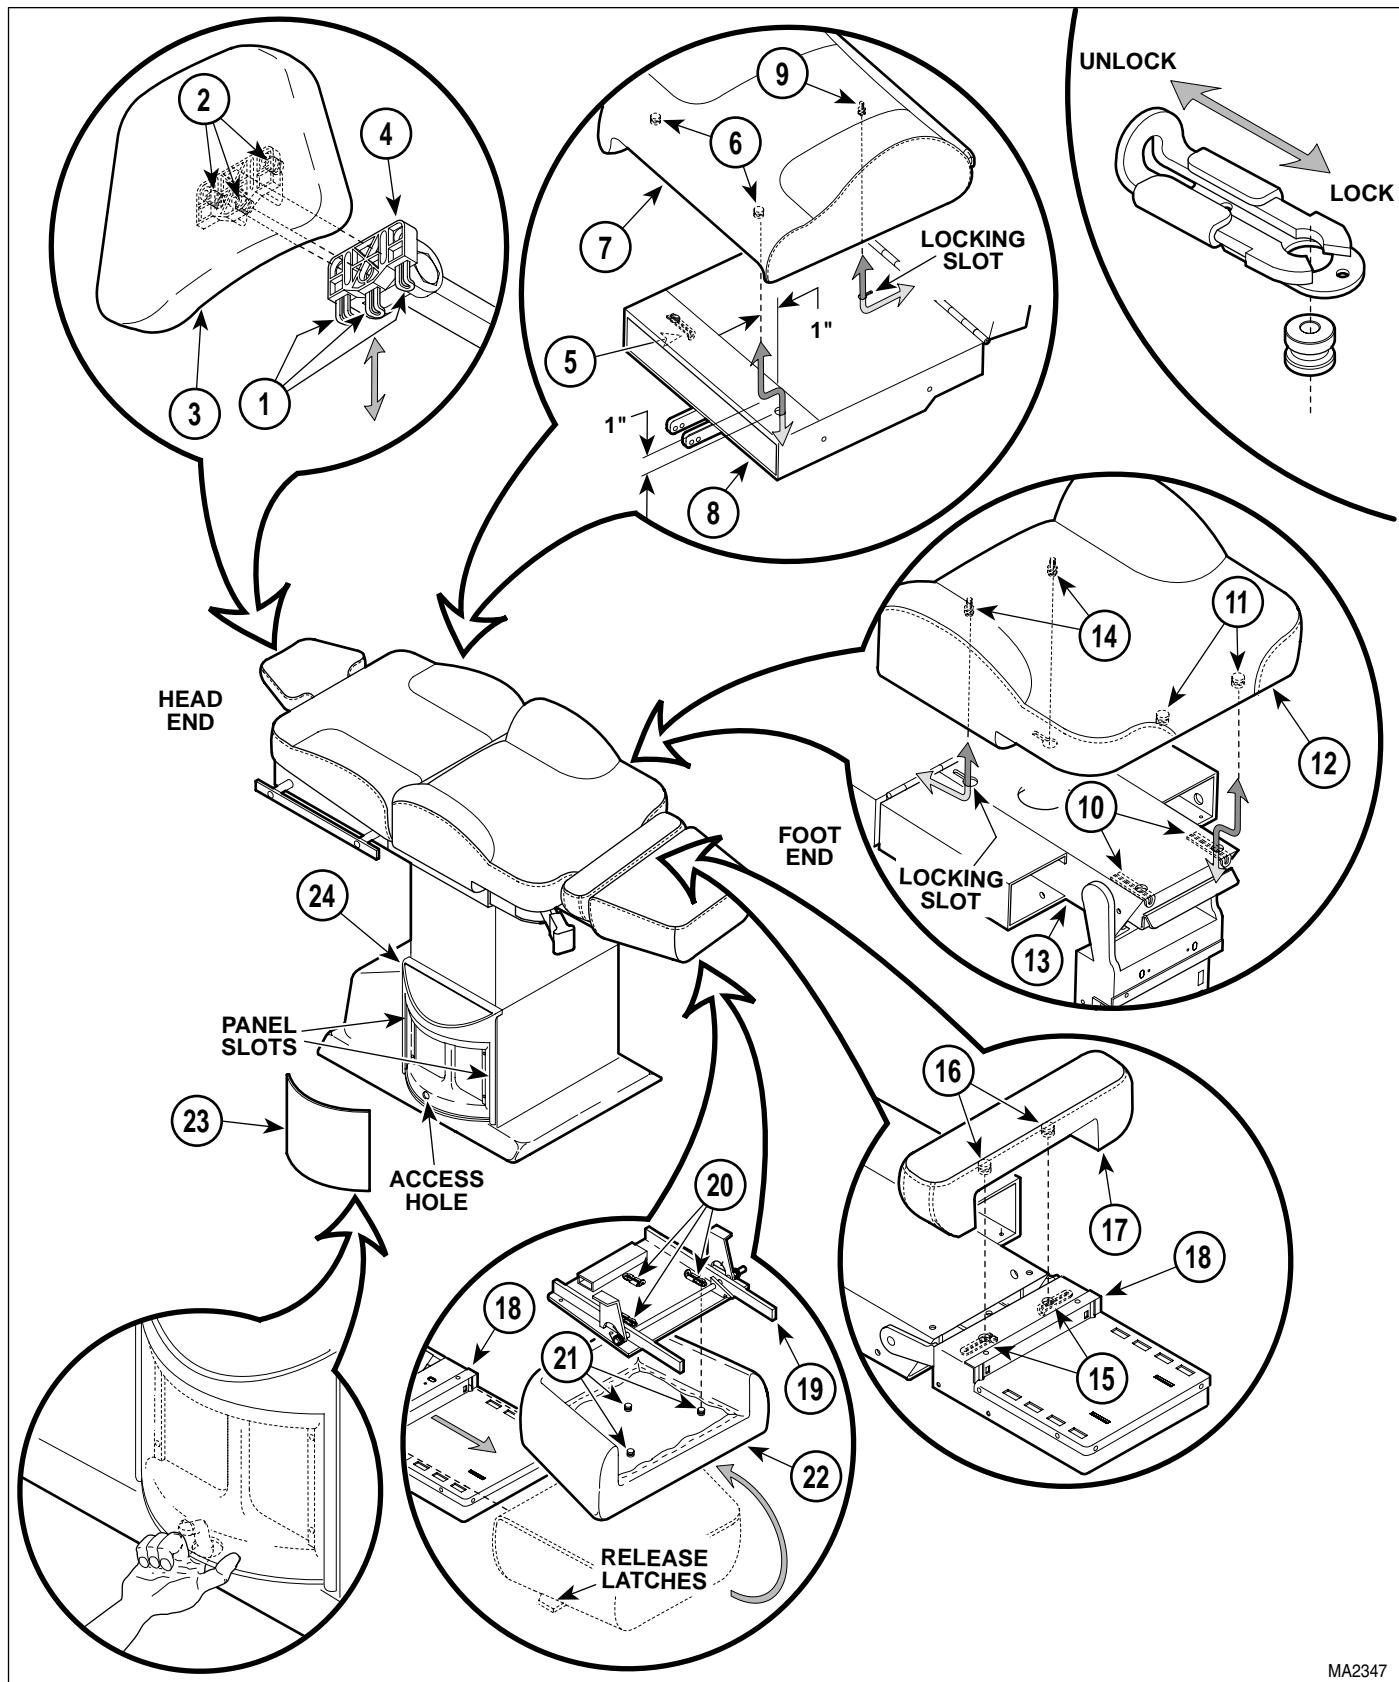

Figure 4-42.1 Upholstery Removal / Installation
- (2) Unlock three locking tabs (1, Figure 4-42.1) by pulling on locking tabs until locking tabs are free of three studs (2).
- (3) Remove upholstered headrest assembly (3) from headboard pivot mount (4) by pulling upholstered headrest assembly straight off.